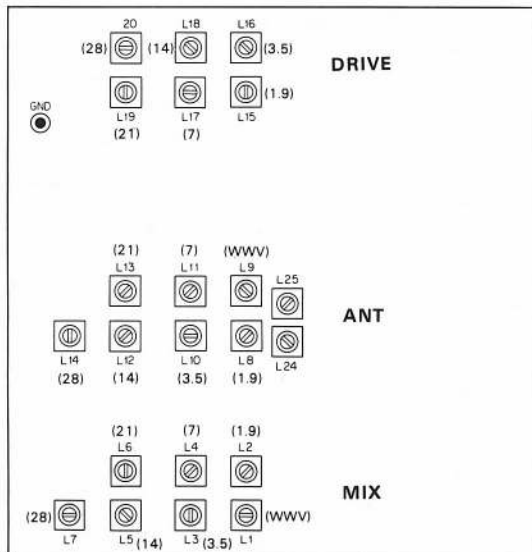
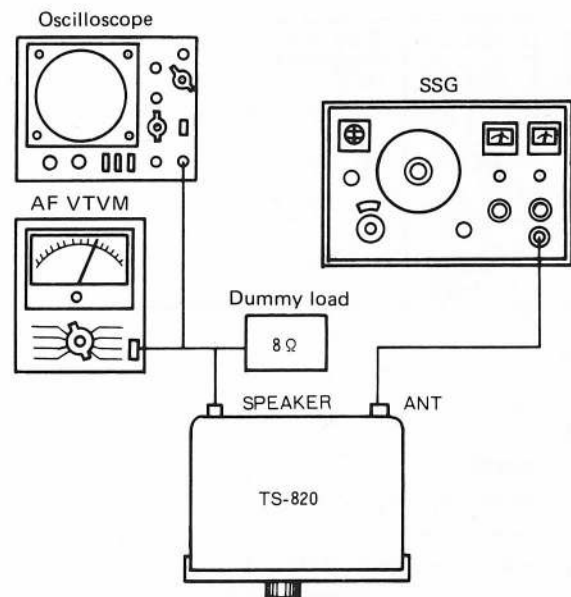

Fig. 23 Coil pack unit
Fig. 26 Adjustment of IF trap coil
Apply SSG output (or marker signal) at 60 dB to the antenna terminal and adjust the coil pack unit (X44-1140-00) in the following procedure of bands for maximum AF output (S meter reading) and maximum sensitivity. Reduce the SSG output suitably as the sensitivity increases (refer to Table 1, Fig. 23).
- Make connection as shown in Fig. 26, and adjust receiving sensitivity at maximum. Then, while applying a signal of 8830 kHz at approx. 100 dB from SSG, adjust L24 and L25 in the coil pack unit (X44-1140-00) alternately and repeat the same procedure two or three times. Until S meter reading becomes minimum. When S meter pointer does not deflect, make adjustment until AF output becomes minimum (refer to Fig. 23 "Coil pack unit").